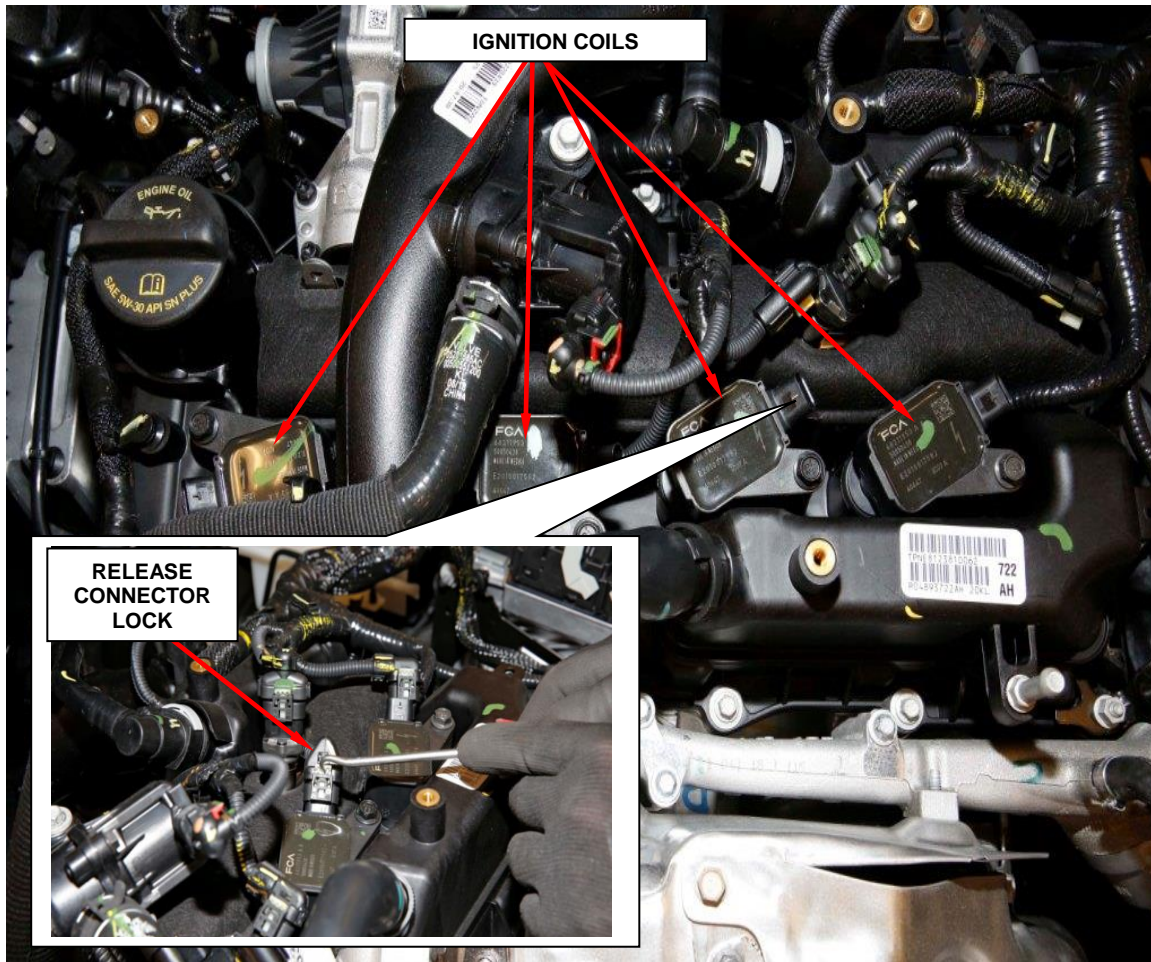

Figure 4 – Ignition Coils
8. Unlock and disconnect the ignition coil wire harness connectors (Figure 4).
9. Loosen the captured ignition coil mounting bolts (Figure 4).